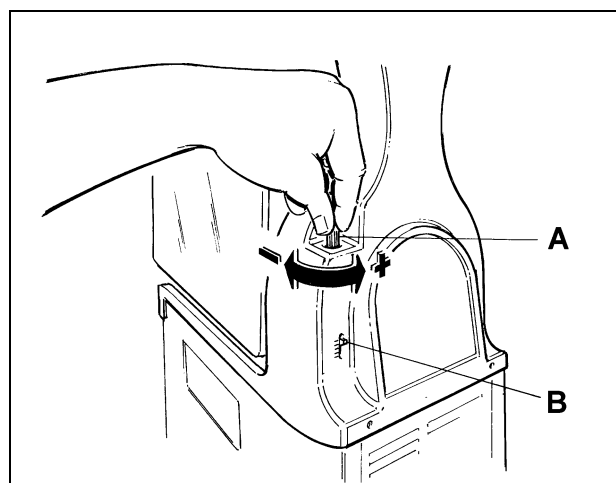

Fig. 21
b) **Adjusting the consistency:** to alter the consistency of the product, turn the screws located on the back of the machine in the following way: clockwise to make the product less dense, counter clockwise to make the product denser (see figure 21).